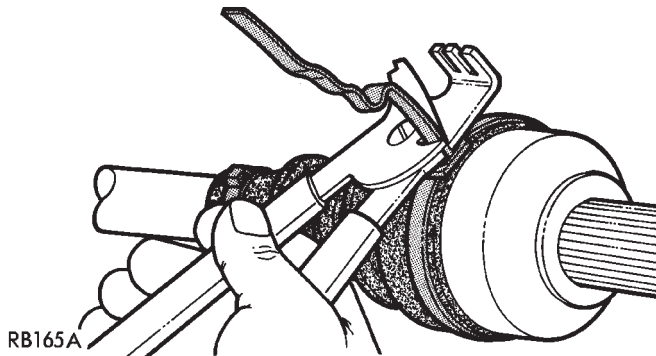

Fig. 12 Cut Strap 1/8 Inch from Buckle
(14) If the strip is tight enough. Remove the tool sideways and cut off the strap 3 mm (1/8 inch), so that it does not overlap the edge of the buckle. Complete job by folding the strip back neatly (Fig. 12).